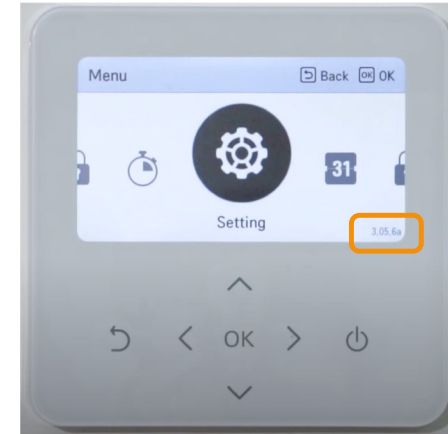

figure 15
2. With the “Setting” icon displayed, make a note of the version number in the lower right corner: this forms the default installer password. In the example opposite, the default password is 3056 (figure 15).